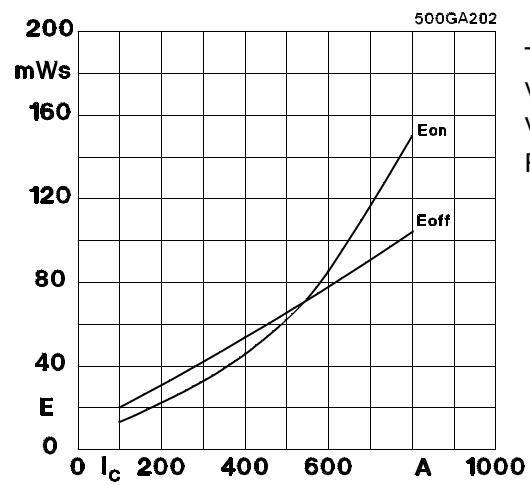

Fig. 2 Turn-on /-off energy =  $f(I_C)$
1)  $T_{case} = 25 \text{ }^\circ\text{C}$ , unless otherwise specified2)  $I_F = -I_c, V_R = 600 \text{ V}, -di_F/dt = 2000 \text{ A}/\mu\text{s}, V_{GE} = 0 \text{ V}$ 3) Use  $V_{GEoff} = -5 \dots -15 \text{ V}$ 4) Suffix "S": with terminal 4 = collector sense for direct  $V_{CEsat}$  monitoring for short circuit protection5) See fig. 2 + 3;  $R_{Goff} = 3,3 \Omega$ 7)  $V_{isol} = 4000 \text{ V}_{rms}$  on request8) CAL = Controlled Axial Lifetime Technology.**Cases and mech. data****SEMITRANS 4 → B6-276****SEMITRANS 4 S → B6-212**